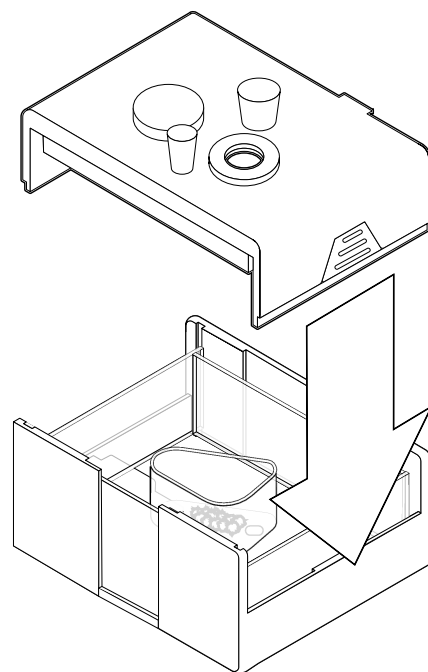

Figure 1. Secure the lid on top of the photosynthesis chamber.
2. Lower the chamber lid onto the photosynthesis chamber, as shown in Figure 1. The tab on the side of the lid ensures that the lid can only be inserted in a single orientation. Press inward on the lower portions of the lid and slide the lid down to secure it in place.